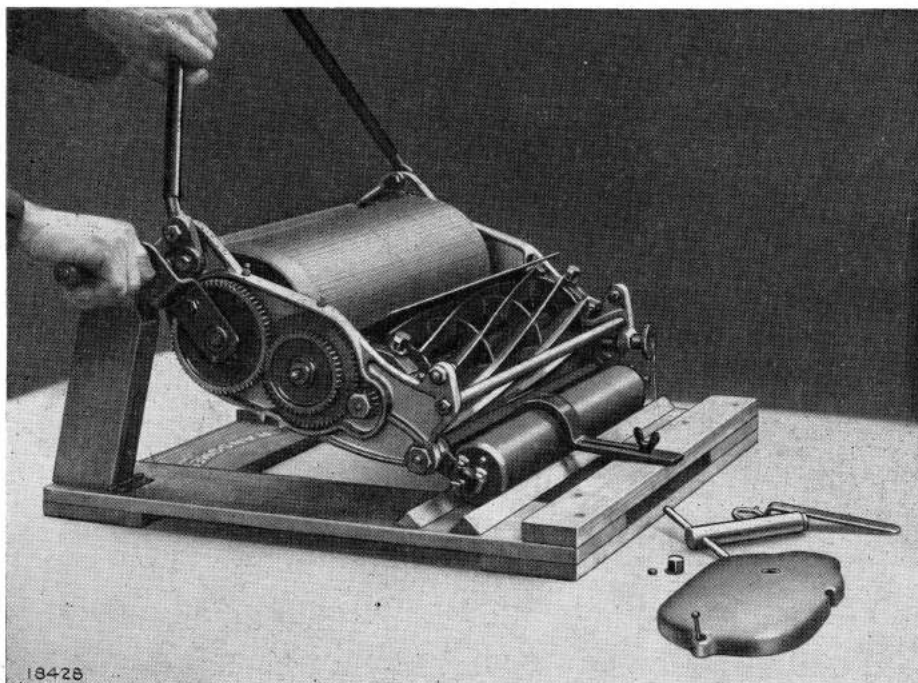

FIG. 3. Grinding-in Rest.
**Cutters.** If the machine does not cut cleanly, set the cylinder carefully to the bottom blade by means of the adjusting screws G. When correctly set, the cylinder should revolve freely but be in "wiping" contact with the bottom blade, and should be able to cut a piece of writing paper cleanly when held against the edge of the bottom blade. This cutting test should be made across the whole width of each cutter. If the paper cannot be cut cleanly without undue pressure of the cylinder on the bottom blade, then the cutters have become dull, and if used in this condition, will only bruise the grass and make the mower hard to push. The keen edges can be restored by a grinding-in process (See Fig. 3) and to get the best results from your "Certes" it is a good policy to grind-in the cutters periodically, say, once a month.
**TO TAKE CUTTING CYLINDER OUT OF MACHINE.** Remove the gear cover, take off hexagon nut and remove pinion from cylinder spindle. Undo the two nuts at each end of the cylinder caps and remove them. Lift up L.H. end of cylinder as shown in Fig 3 and the spindle end can be withdrawn through the slot in the side frame (P).